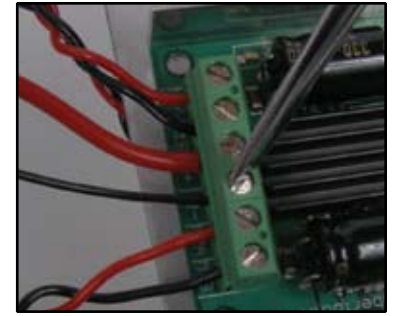

Figure F6
8) Insert the black wire from the battery holder into the controller where it is labeled B- and tighten the screw (Figure F6).